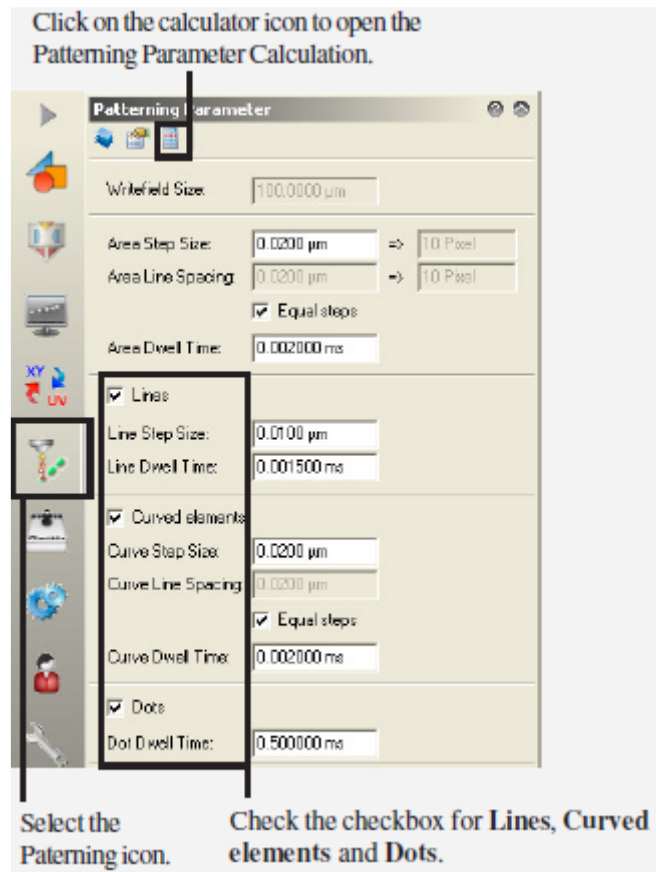

Figure 24: Getting to the patterning calculator.
1. In the patterning menu (see fig 24) choose the kind of patterning elements you are using in your patterning file and then click on the calculator icon.